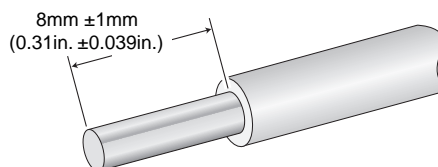

Figure 21. Stripped Wire
3. With a 14-gauge wire-stripping tool, strip the three wires in the tray cable coming from the DC input power source to 8 millimeters  $\pm$  1 millimeters (0.31 inches  $\pm$  0.039 inches), as shown in Figure 21.